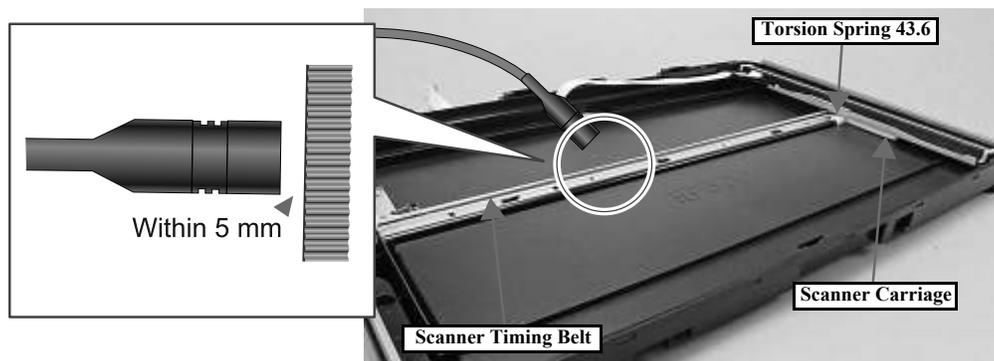

Figure 5-3. Scanner Timing Belt Tension Check
3. Bring the microphone of the sonic tension gauge close to the center of the Scanner Timing Belt as shown in Figure 5-3.